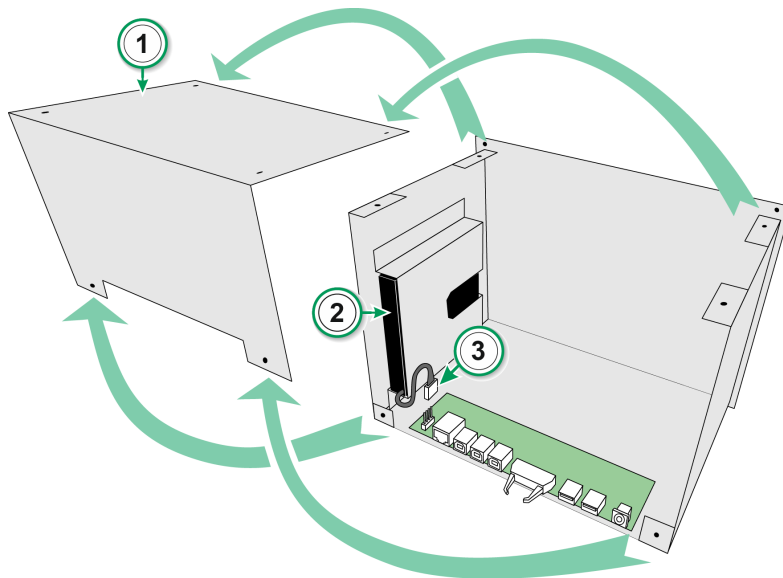

Figure 187: Replacing the battery pack
1. Remove the MC6-WS cover (see callout #1 in Figure 187: Replacing the battery pack) using a Torx T20 screwdriver.
2. The battery pack is located at the rear of the MC6-WS (see callout #2 in Figure 187: Replacing the battery pack).
3. Unplug the battery pack's connection cable (see callout #3 in Figure 187: Replacing the battery pack) and remove the battery pack.